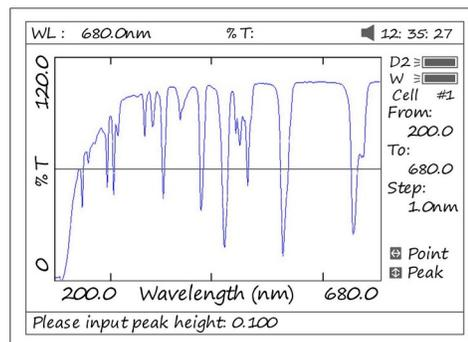
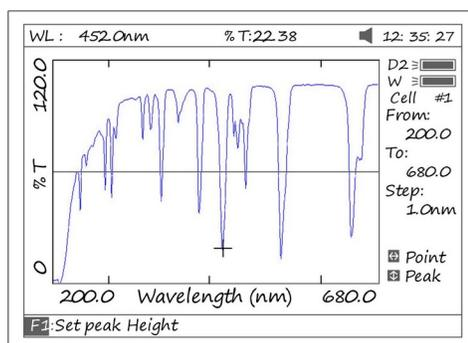

Fig 50
Fig 51
1) Peak to peak, press [F1] to set “peak height” and input value by pressing the numeric keypad (Fig 50). Press [λ] to search the peak from left to right and press [v] to search from right to left. The value of every peak found will be displayed on the screen one at a time (Fig 51).